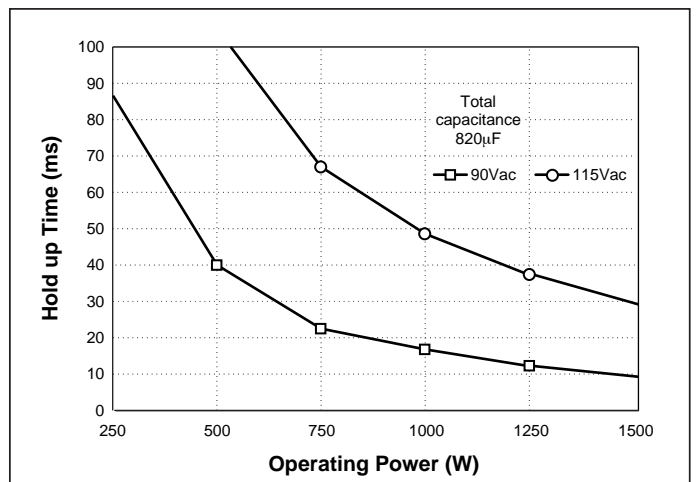

Figure 14—Ride-through time vs. operating power
**Determining Ride-through Time.** Figure 14 illustrates ride-through time as a function of line voltage and output power, and shows that at a nominal line of 115Vac, ride-through would be 68 ms. Ride-through time is a function of line voltage.